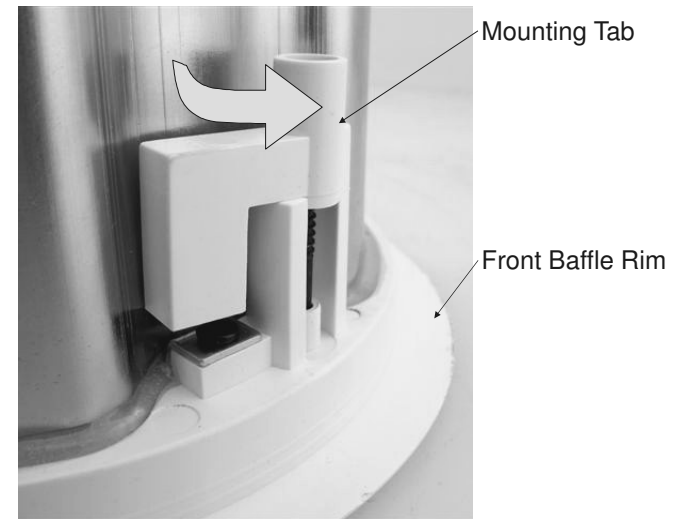

Figure 2: Tighten the Mounting Tabs
5. Tighten the mounting tabs (see Figure 2).